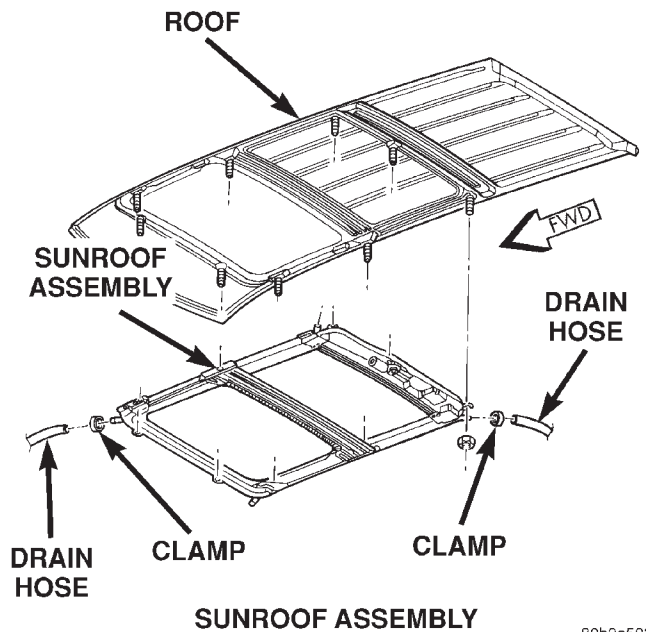

Fig. 7
- (1) Move glass panel to the fully closed position.
- (2) Disconnect battery negative cable.
- (3) Recline both front seats.
- (4) Remove overhead console.
- (5) Remove headliner
- (6) Disconnect the drain tubes from sunroof housing (Fig. 7).
- (7) Loosen fasteners attaching sunroof housing assembly.
- (8) With the aid of a helper, remove fasteners attaching sunroof housing assembly to roof panel.
- (1) Raise the sunroof housing assembly and guide into position and start fasteners (Fig. 7).
- (2) Tighten the fasteners, front to rear, attaching the sunroof module to roof panel. Tighten the fasteners, front to rear, to 11 N·m (97 in. lbs.) torque.
- (3) Connect the drain tubes to the sunroof housing.
- (4) Set headliner into position.
- (5) Connect express module, drive motor, and control switch wire connectors.
- (6) Test sunroof operation, adjust as necessary.
- (7) Finish installing the headliner.
- (8) Connect battery negative cable.